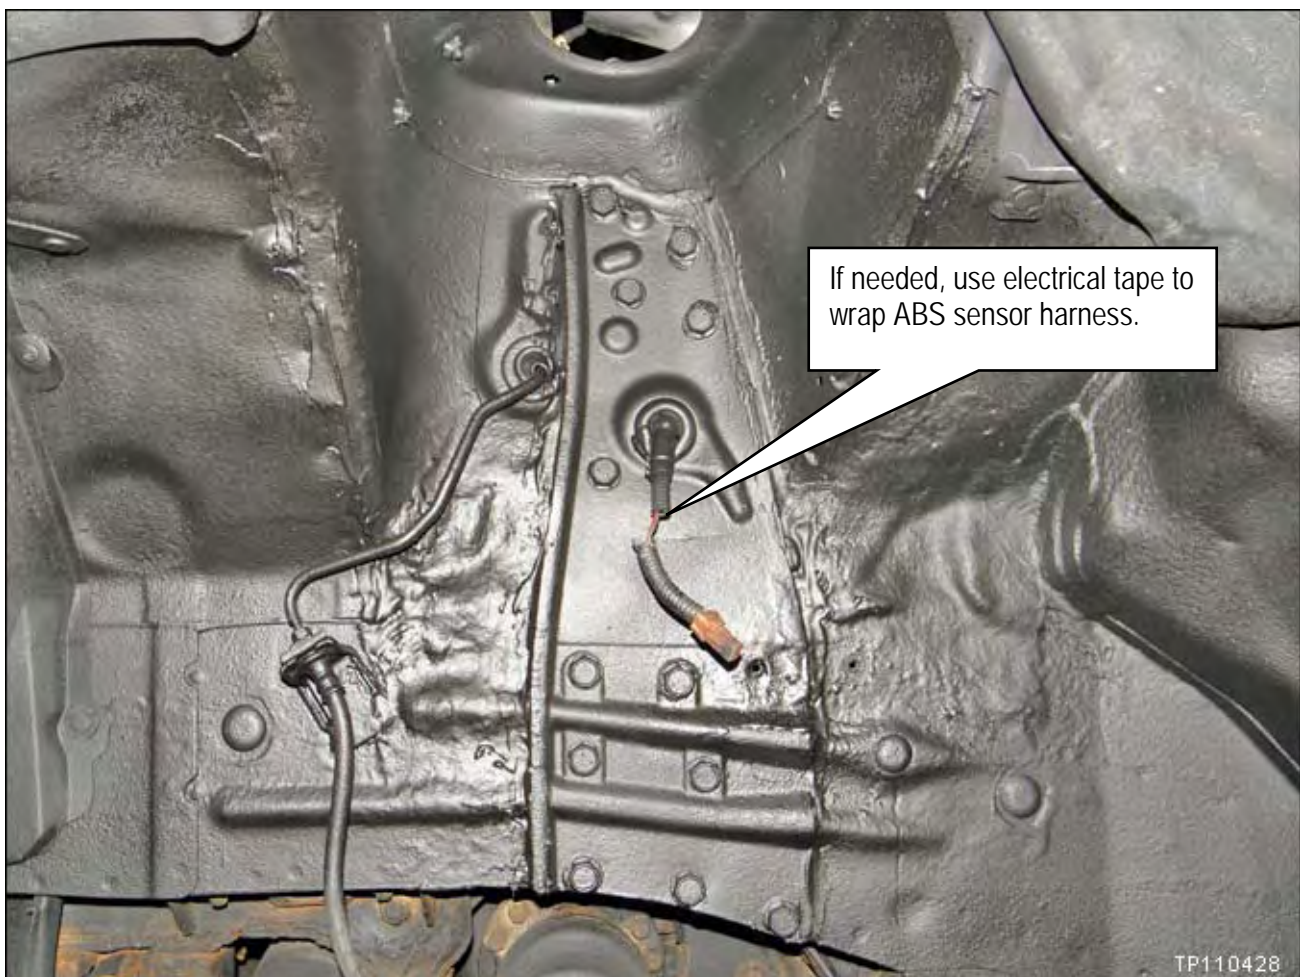

Figure RB33
39. Completely and liberally coat the area shown in Figure RB33 (strut housing and wheel house area) with rubberized undercoat.